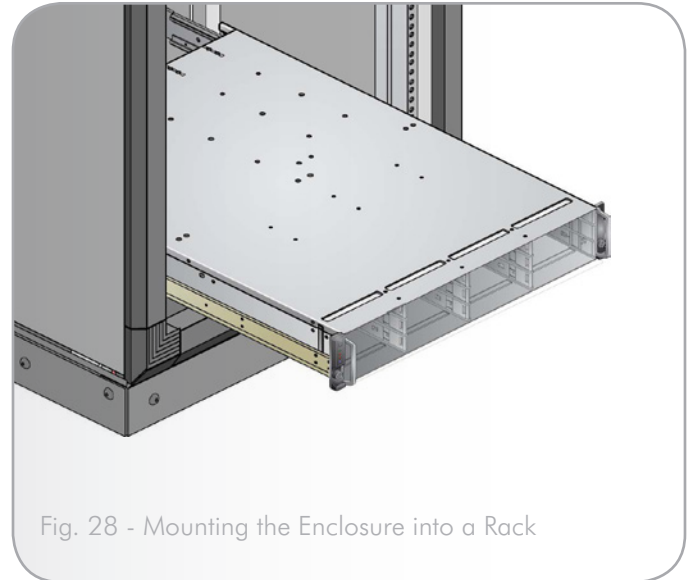

Fig. 28 - Mounting the Enclosure into a Rack
8. Mount the enclosure in the rack as follows (refer to Fig. 28):